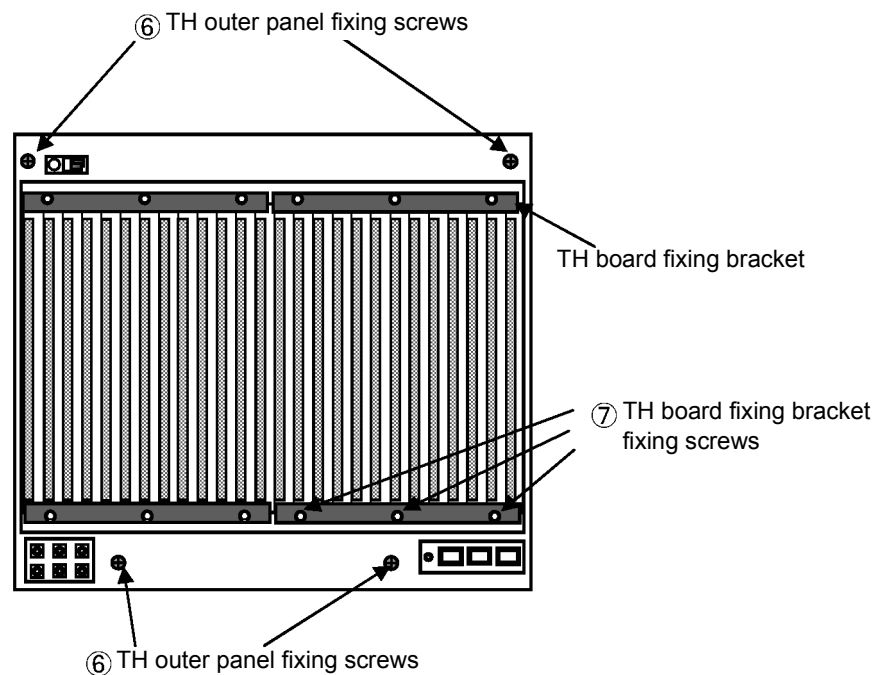

Figure 5-12 Top View of the Test Head (HIFIX Removed)
- (5) Remove the TH outer panel fixing screws ⑥ shown in Figure 5-12, and remove the TH outer panel.
- (6) Remove the screws ⑦ shown in Figure 5-12, and remove the TH board fixing brackets.